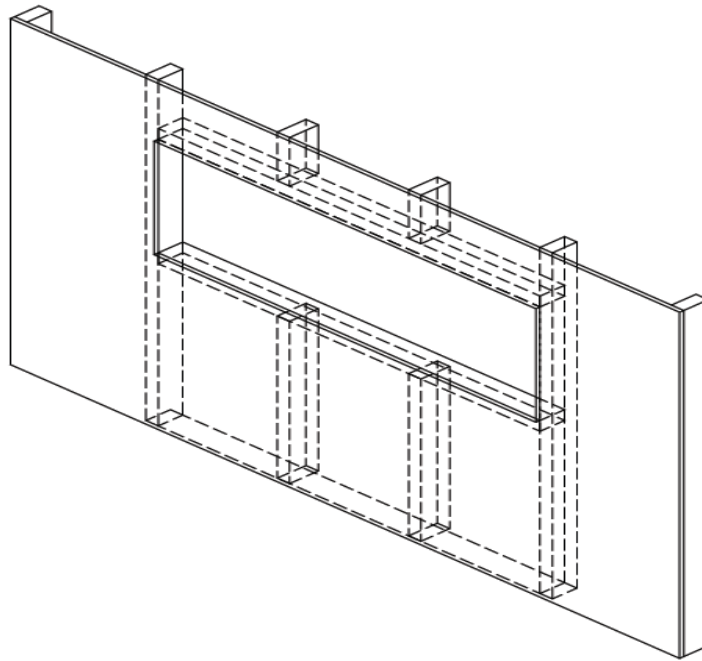

Figure 6
1. Prepare a frame opening according to the dimension of the fire unit. *Figure 6*